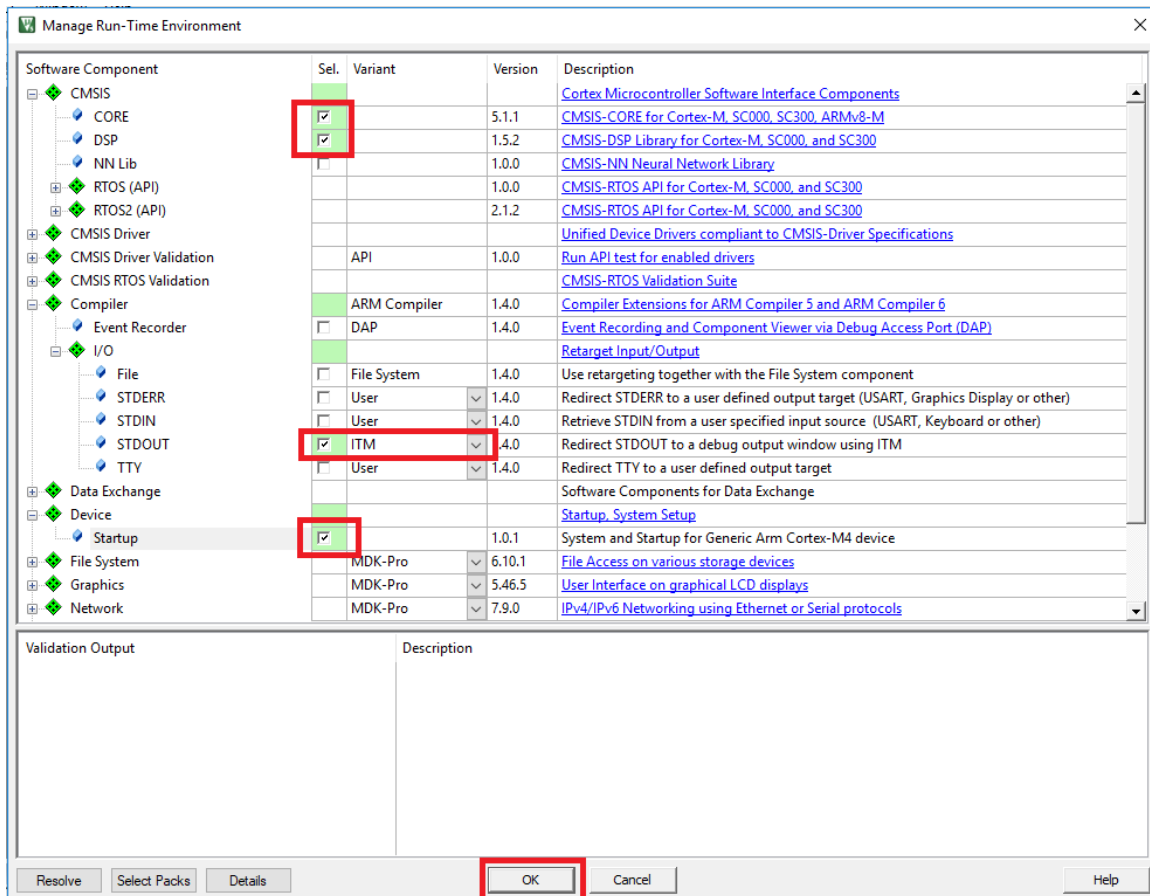

Figure 5: Select software.
5. We are now asked what software to add to the project. Select the options as shown in Figure 5, and click OK. This software is essentially a collection of low level drivers that initializes the ARM core and allows us to interact with the hardware at a higher level of abstraction.